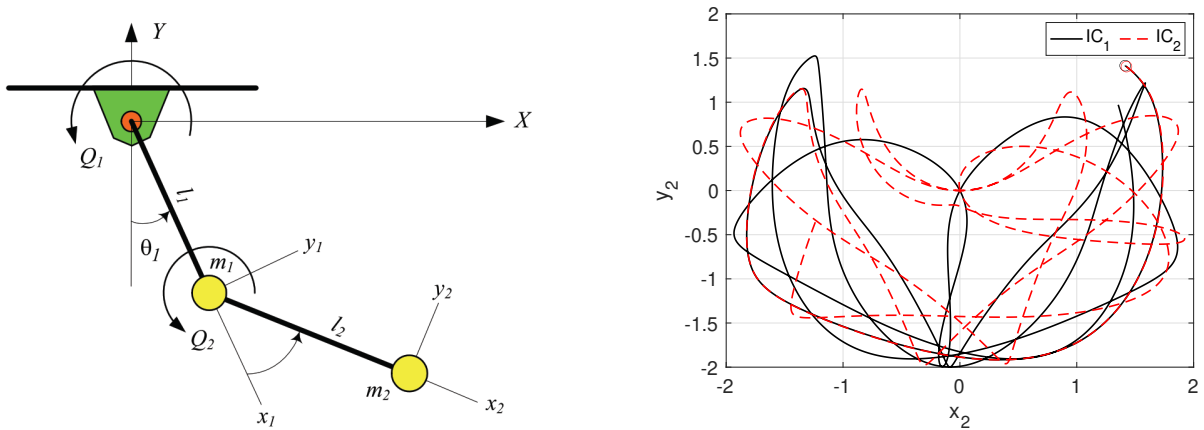

Figure 1: Schematic and results plot for Problem 1.
1. Consider the (double pendulum) planar robot in Fig. 1, where Q_i represent the torque at the i^{th} joint.